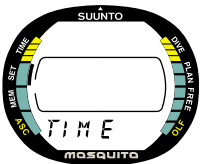

Fig. 4.2. Time Adjustment Mode.
1. In the Setting Mode, press **S** to select the Time Adjustment Mode (Fig. 4.2.).